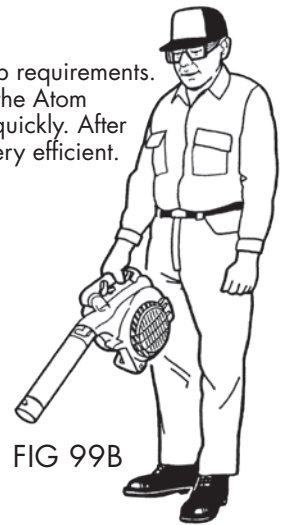

FIG 99B
3. Because the Atom **AIRLIFT®** blower is so light at full throttle it can easily be held 30mm clear of operator pants **or in front of operator** (Fig. 99B). Regardless of position blower is always in comfortable smooth stable equilibrium.